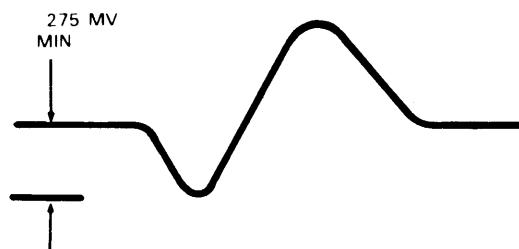

FIGURE 5-1. INDEX TRANSDUCER WAVESHape
7. Start the drive and with both top covers on and closed, measure the amplitude of the negative lobe at TP20 on board B06. If it is less than 275 mv (Figure 5-1), the adjustment has been performed incorrectly or the transducer is defective.